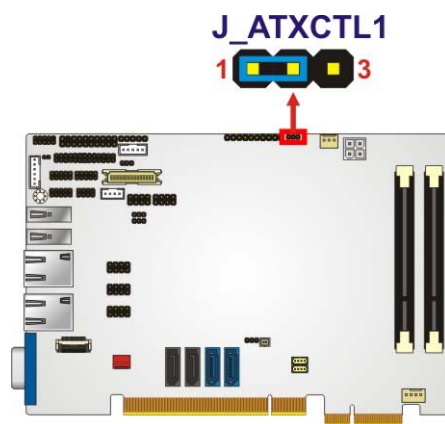

Figure 4-8: AT/ATX Power Mode Jumper Location
- Jumper Location:** See Figure 4-8